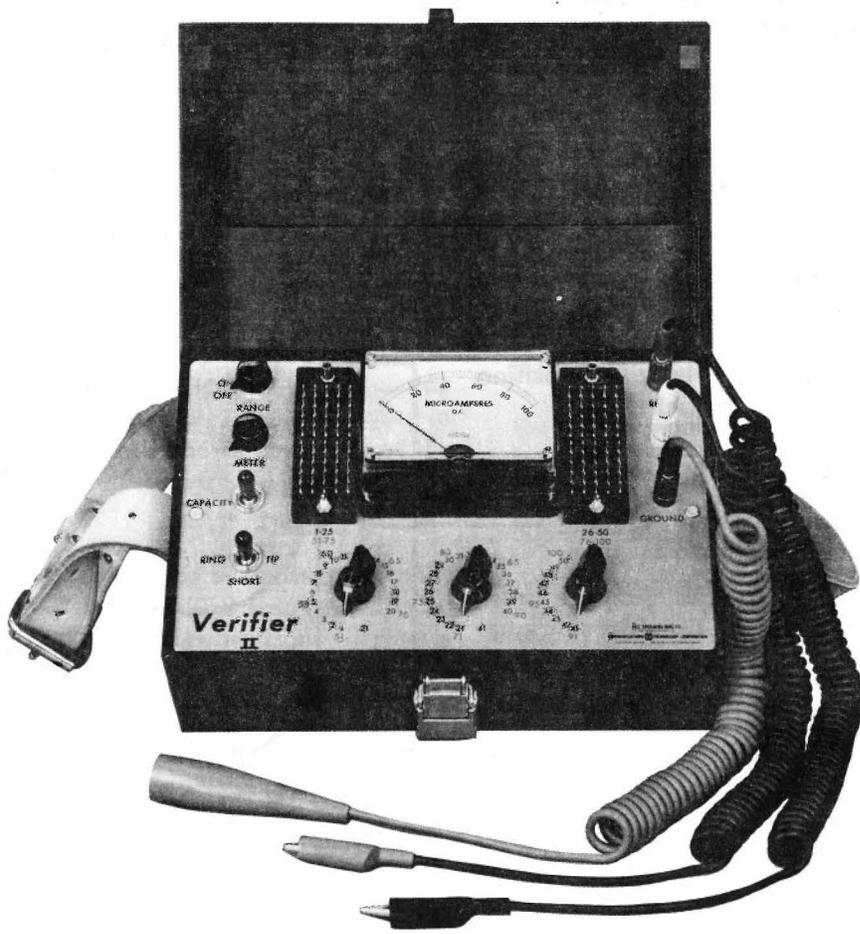

Figure 1
1.01 This section covers the description, operation, and applications of the C-9945 Verifier test set. See Figure 1.